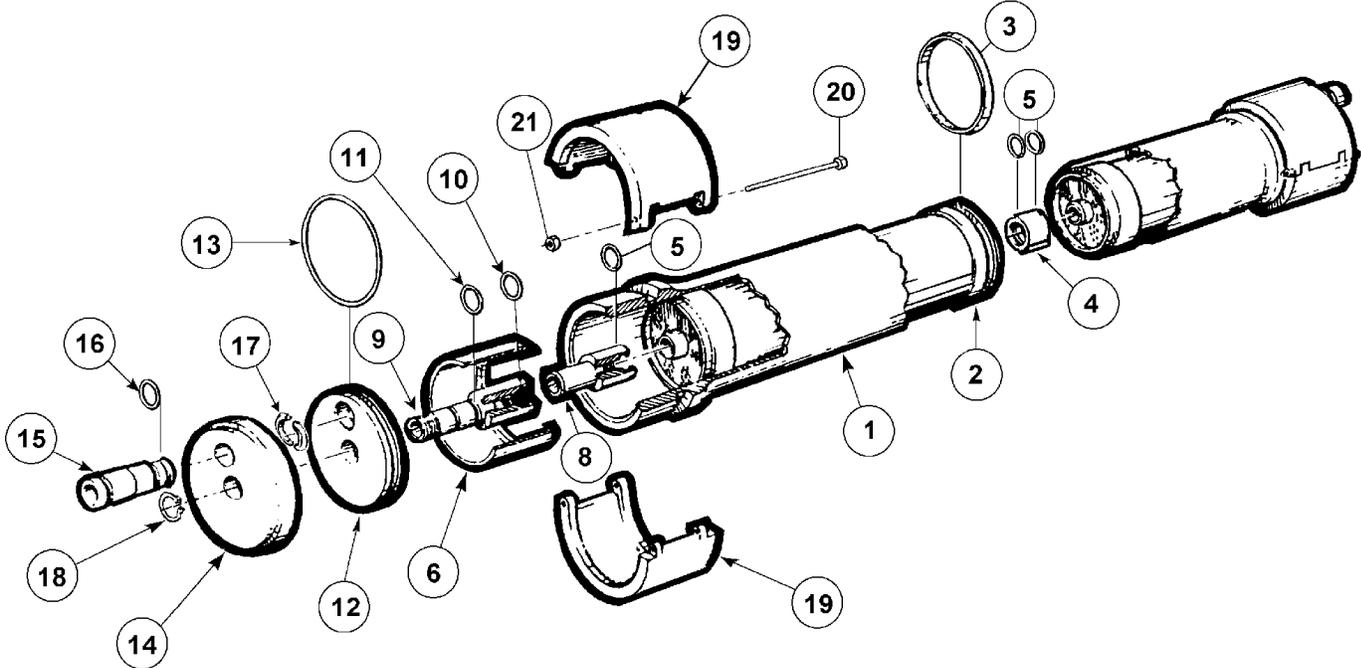
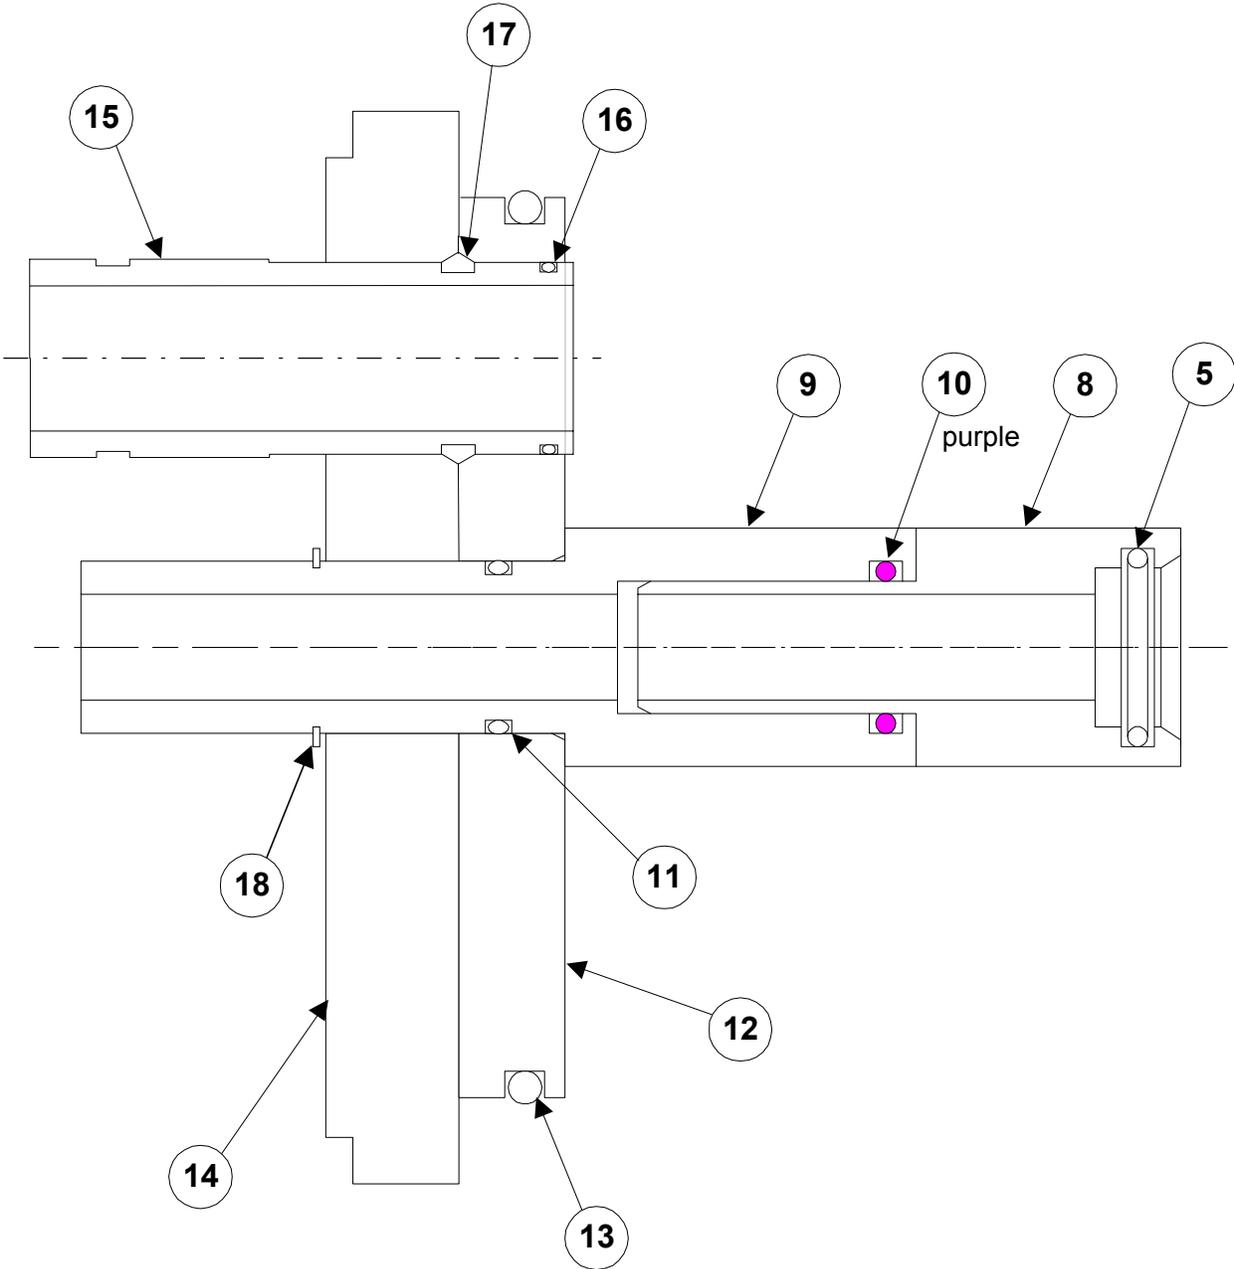

Figure 1. Pressure Tube Assembly
Figure 2. End Cap Assembly
This bulletin provides the guidelines for loading and unloading Hydranautics' Reverse Osmosis (RO) membrane elements. Two figures are included at the end of the bulletin. Figure 1 illustrates the series 8000 pressure tube assembly; Figure 2 is a detailed illustration of the pressure tube end cap assembly (call-out #7 in Figure 1). Numbers given in parentheses in the procedures below refer to the call-out numbers in Figures 1 and 2.
Legend for Figure 1